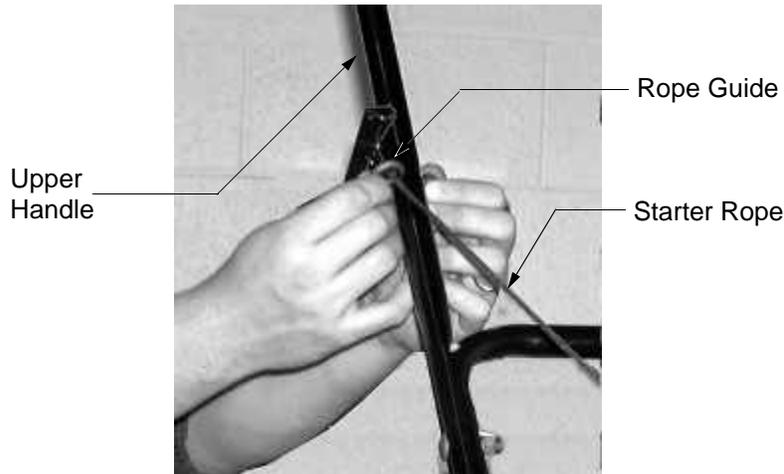

FIGURE 9
- The rope guide and associated hardware are included in the hardware pack. Insert the open end of the rope guide into the middle hole in the right upper handle. See Figure 9.